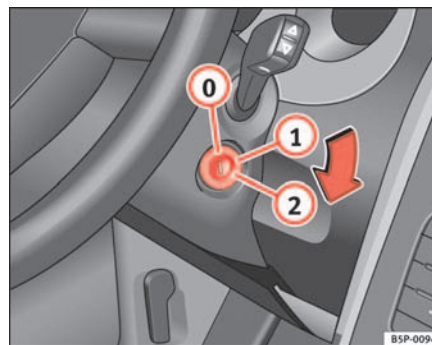

Fig. 112 Ignition key positions
In the position ⇒ fig. 112 the ignition and the engine are OFF and the steering may be locked.
- Turn the ignition key to position ⇒ page 148, fig. 112 ①. The indication lamp  will light for engine pre-heating.
- When the warning lamp goes out, turn the key to position ② to start the engine. Do not press the accelerator.
- Turn the ignition key to position ⇒ page 148, fig. 112 ①.